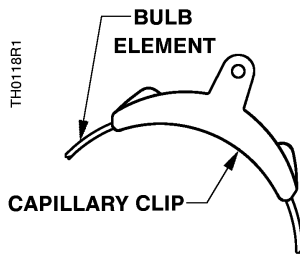
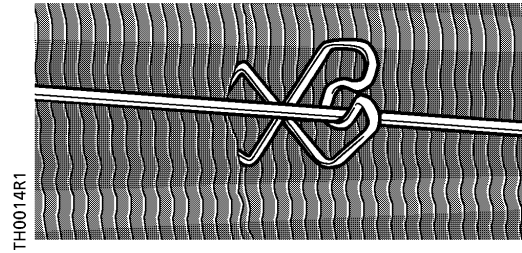
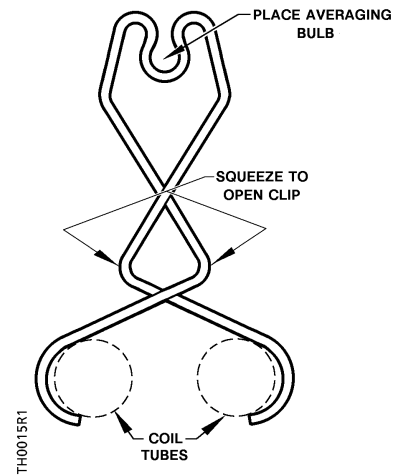

Figure 4. Capillary Clip Number 7421700060
Figure 5. Clip Mounted on Coil.
Figure 6. Coil Clip Number 356-115.
- When the bulb is mounted in a unit ventilator, use coil clip Number 356-115 to support the bulb in the air stream through the coil. See Figure 5 and Figure 6.
- Use a coil clip, Part Number 356-115 (Figures 6 and 7) or a capillary clip, Part Number 7421700060 (Figure 4), to support the bulb if there is easy access to the coil.